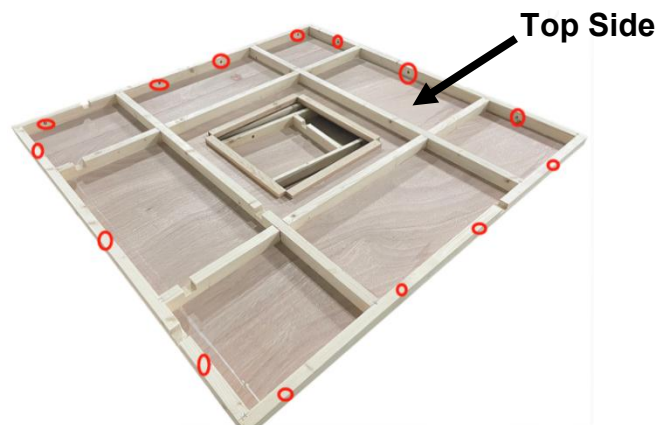

Figure 5
1. Locate the MAIN INTERIOR ROOF PANEL. Note that the interior side has the ceiling light. The MAIN INTERIOR ROOF PANEL will need to be lifted up and onto the top of the sauna room. Press the MAIN INTERIOR ROOF PANEL downward into place. Use the provided 5x40mm wood screws to screw the MAIN INTERIOR ROOF PANEL to the wall panels at the predrilled holes. (see Figure 5)